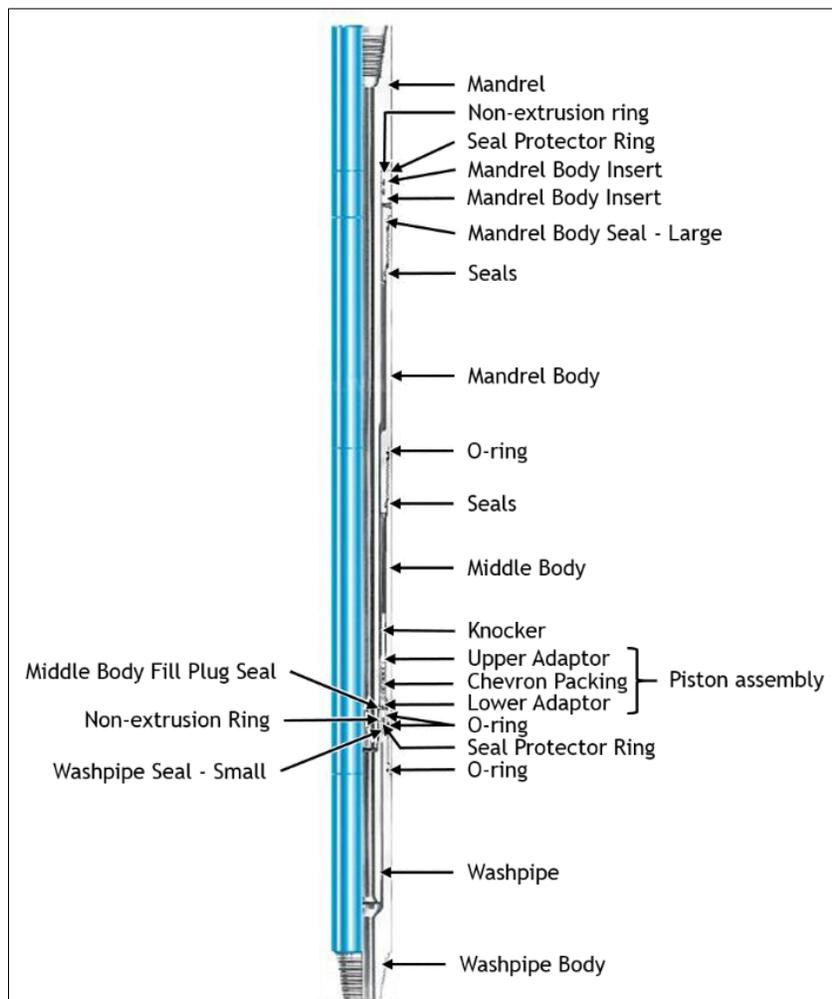

Figure 18
- d. Install a jar intensifier (figure 18) above the drill collar.
The jar intensifier (figure 18) is composed essentially of a mandrel assembly (or top sub and mandrel), mandrel body insert, mandrel body, middle body, washpipe body, washpipe, knocker and piston assembly. The tool is completely filled between the mandrel body insert and washpipe body, with silicone fluid of high compressibility index.